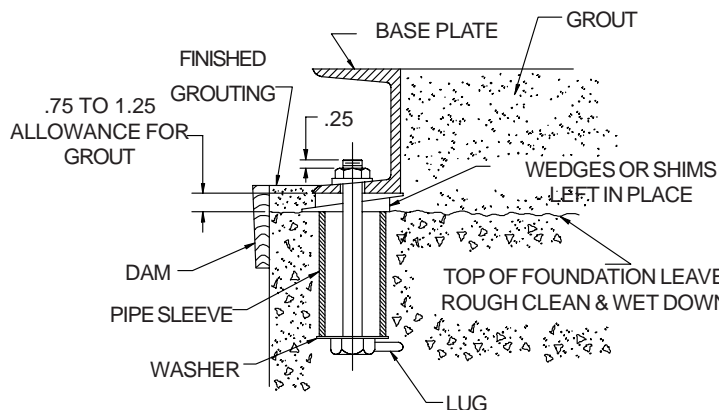

FIGURE 2a: Anchor Bolt Installation.
grooved before the concrete sets to provide a suitable bonding surface for grout. Anchor bolts should be set in pipe sleeves for positioning allowance, as shown in Fig. 2a. Allow enough bolt length for grout, lower base plate flange, nuts and washers. Allow the foundation to cure several days before proceeding with pump installation.
- After pump alignment has been established, put nuts on foundation bolts and tighten them just enough to keep the unit base plate from moving. Construct a form or dam around the concrete pad and pour grout in and around the pump base. (See Fig. 2a). Grout compensates for uneven foundation, distributes the weight of the unit, and prevents shifting. Use an approved, non-shrinking grout (such as Embecco 636 by Master Builders, Cleveland, Ohio or equivalent). Allow at least 24 hours for this grout to set before proceeding with piping connections.